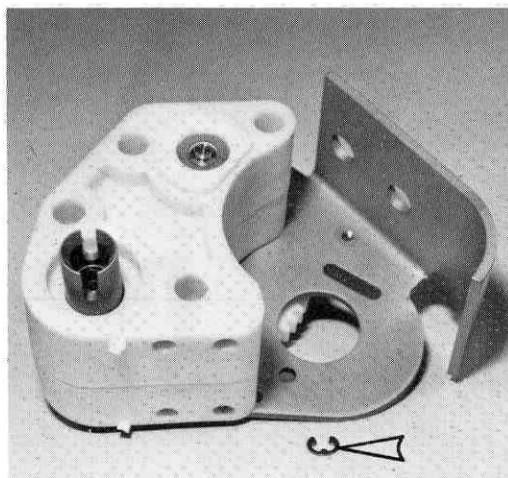

Fig. 90
□ **Fig. 90** Install an "E" clip on the end of the dif shaft.